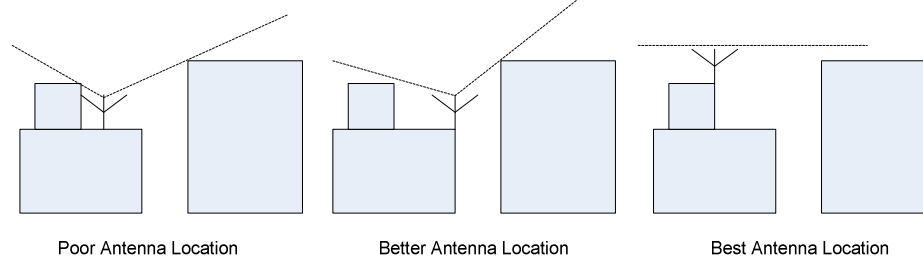

Figure 1 Antenna Location
- A. Placement of the GNSS antenna is extremely important. It should be placed so that it has clear view of as much sky as possible. Any obstructions such as antennas, large metal objects, or buildings will limit the performance of the 4380A. The GNSS antenna should have an unobstructed line of sight to the sky. (See Figure 1.)